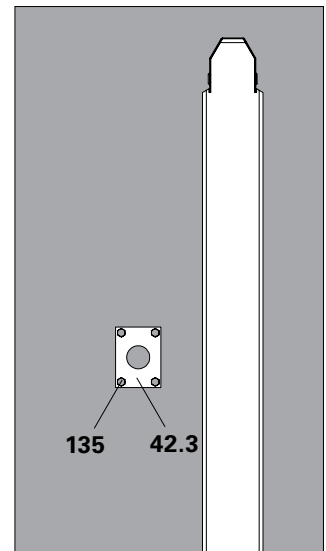

Fig. C3.06a
- Ensure there is sufficient distance to the formwork girder. (Fig. C3.06a)